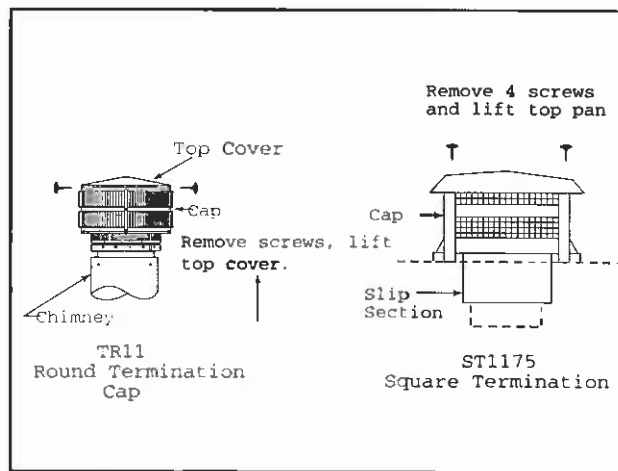

Figure 28
- c. Remove the termination cap or housing top. See Figure 28.